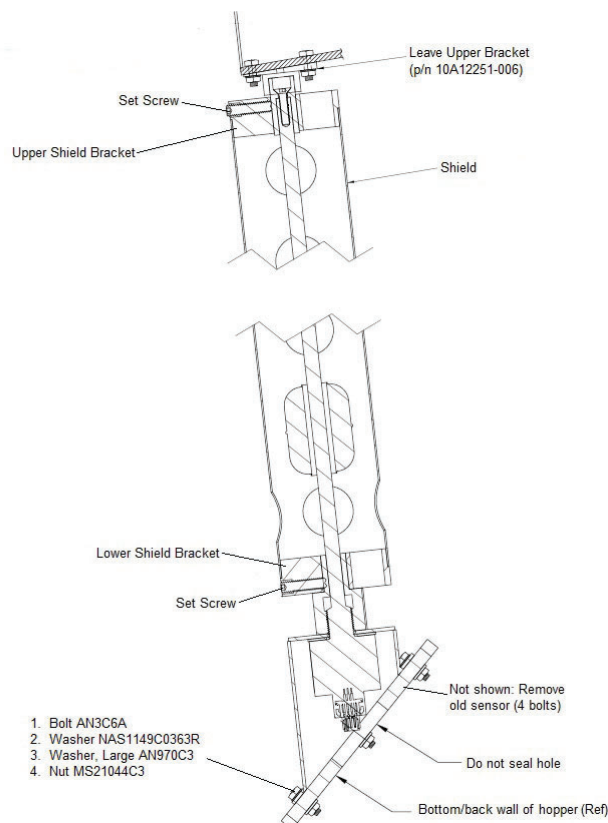

Figure 3
- Leave in the upper bracket (10A12251-006) bolted to the top of the hopper. Reference Figure 3.
- Remove and discard the 4 bolts mounting the probe to the back wall of the hopper. Reference Figure 3.